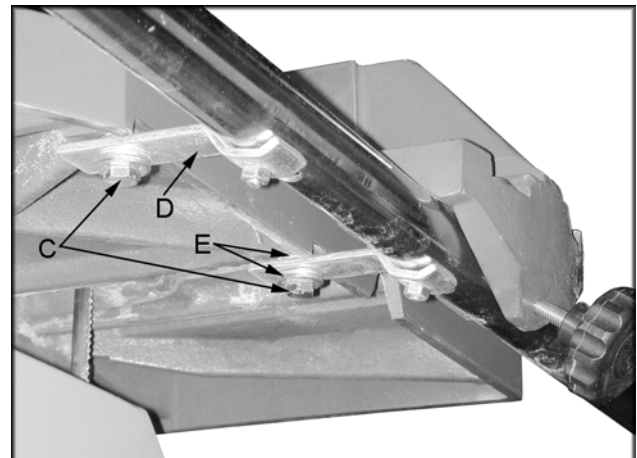

Figure 11
3. The fence should be parallel to the blade. If not loosen the bolts (C, Figure 11) and adjust the guide tube until the fence is parallel to blade. Tighten the bolts.
4. Raise or lower the fence and guide tube by adding or subtracting flat washers (E, Figure 11) between the guide tube bracket and table.
5. With a square verify the fence face is perpendicular to the table top. If it is not you will need to shim between the guide tube bracket (D, Figure 11) and table at the low end of guide tube.